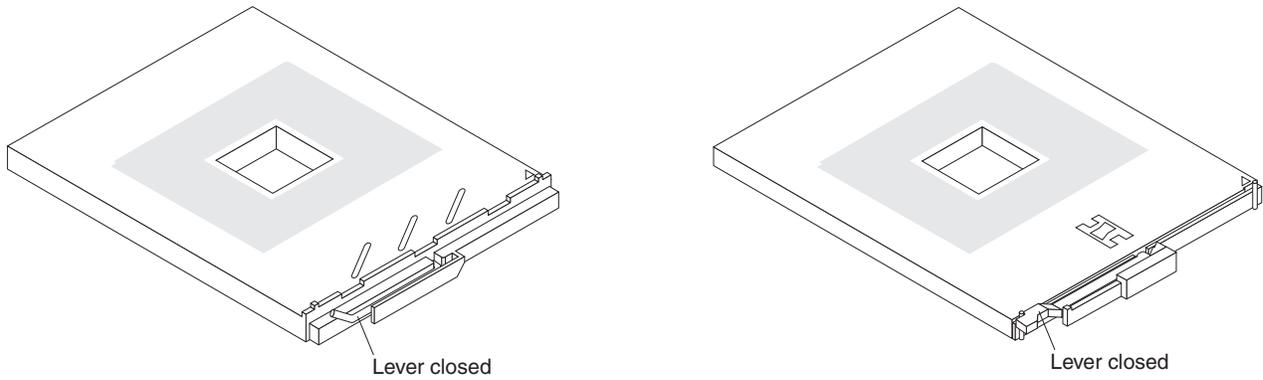
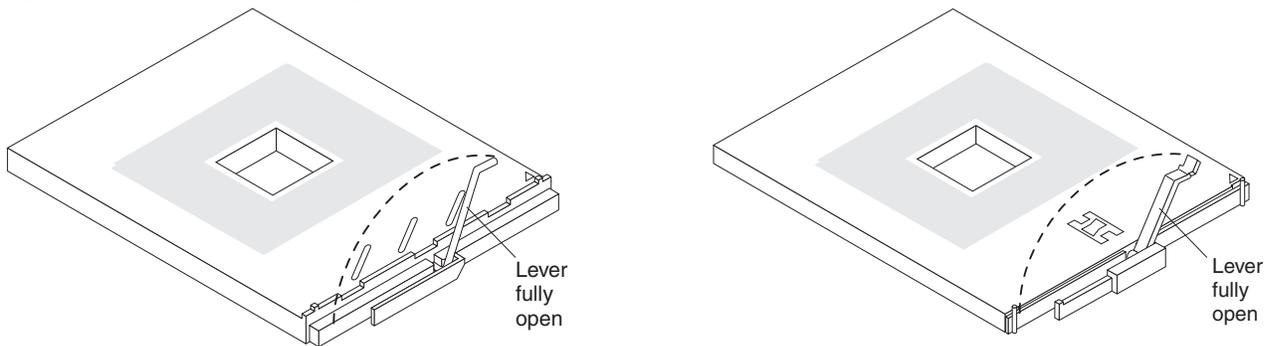

Figure 21. Microprocessor locking lever in the closed position
Figure 22. Microprocessor locking lever in the fully open position
- c. Rotate the locking lever on the microprocessor socket from its closed and locked position (Figure 21 on page 43) until it stops or clicks in the fully open position (approximately a 135° angle), as shown in Figure 22 on page 43.